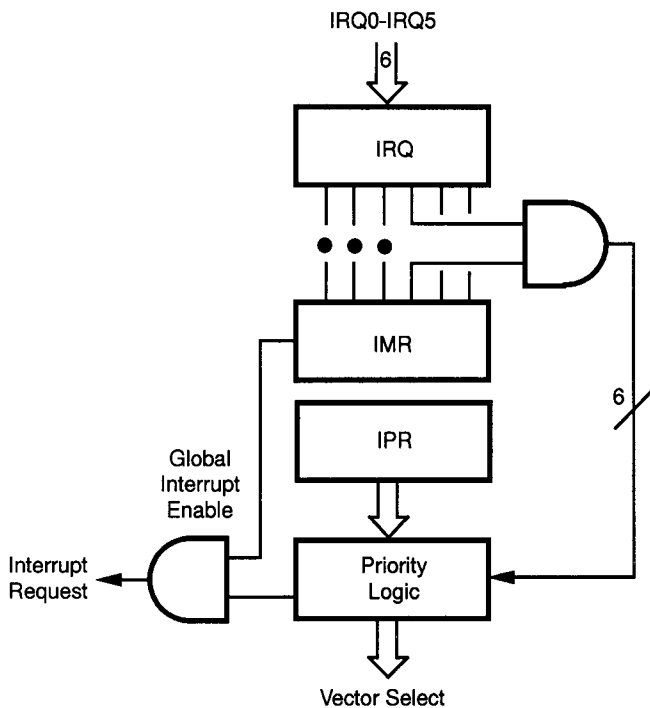

**Figure 14. Counter/Timers Block Diagram**
**Counter/Timers.** There are two 8-bit programmable counter/timers (T0-T1), each driven by its own 6-bit programmable prescaler. The T1 prescaler can be driven by internal or external clock sources, however, the T0 prescaler is driven by the internal clock only (Figure 14).